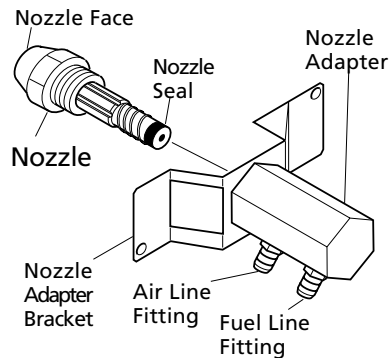

Figure 15 - Nozzle and Nozzle Adapter
5. Carefully remove nozzle from nozzle adapter using 5/8" socket wrench (See Figure 15).